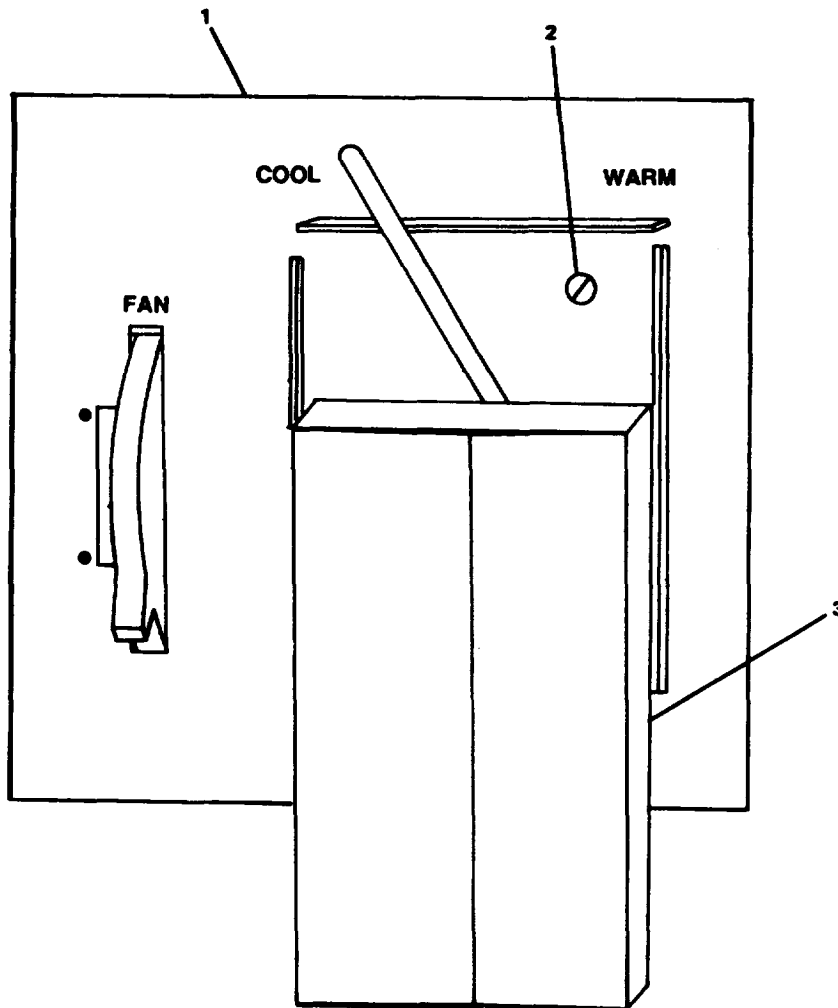

FIGURE 2-151. Thermostat Replacement.
- (1) Remove thermostat cover (3, FIGURE 2-151).
- (2) Remove mounting screws (2).
- (3) Tag and disconnect wiring from thermostat (1).
- (4) Remove thermostat.
- (1) Connect wiring to thermostat (1, FIGURE 2-151).